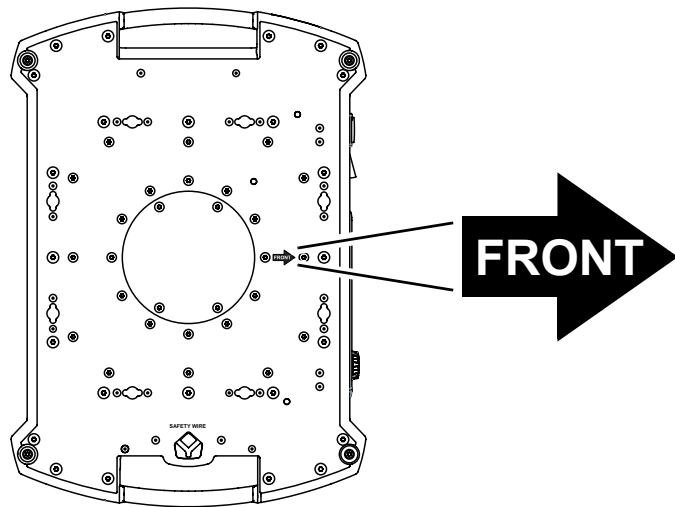

Figure 4: Front of fixture
3. See Figure 4. Note the position of the arrow on the bottom of the base that indicates the front of the fixture.